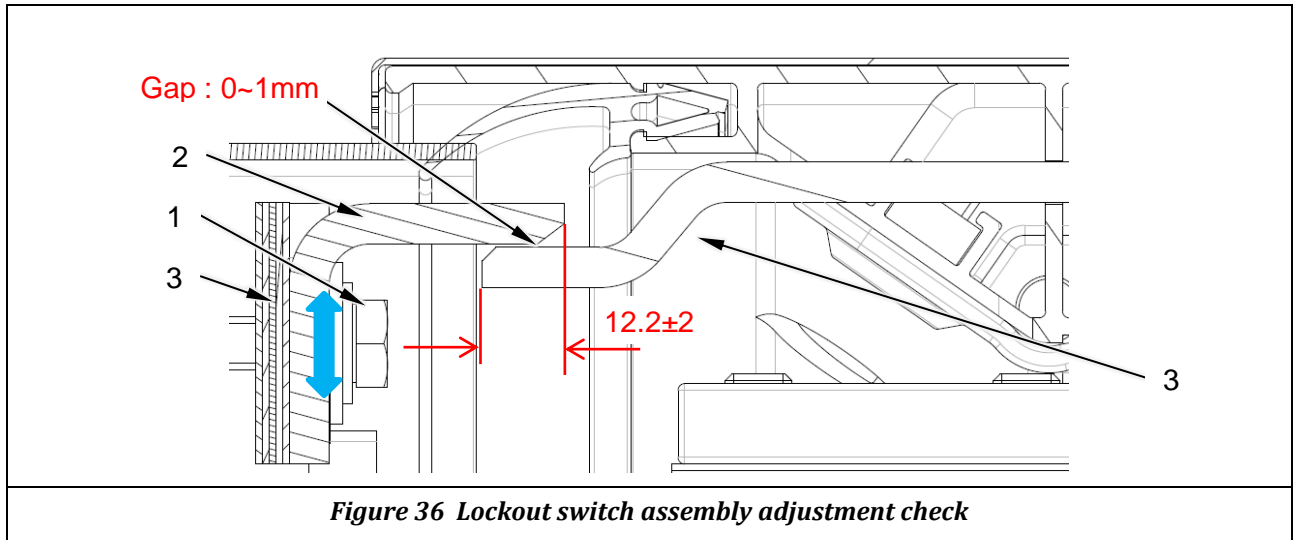

Figure 36 Lockout switch assembly adjustment check
- 3) Check the gap between lockout bar (*item 2, Figure 36*) and bracket (*item 3, Figure 36*), which should be 0~1mm
- a. Loosen the 2 fixing screws (*item 1, Figure 36*)
- b. Move the lockout bracket (*item 2, Figure 36*) to make it contact the lockout bar, gap should be no more than 1mm
- c. Add or remove the shims (*item 3, Figure 36*) to adjust the overlap as 12.2 ± 2 mm